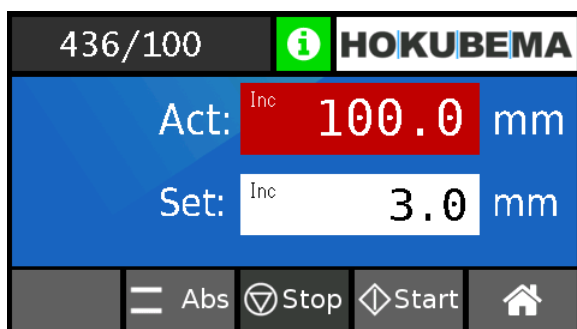

Figure 30: Setpoint input in incremental mode
- Then tap on the "Set" field and enter the desired incremental setpoint, e.g. **3.00 mm** (⇒ Figure 30).
- The "**Act:**" field is highlighted in red until the setpoint value "**Set:**" is reached (see ⇒ Figure 30).